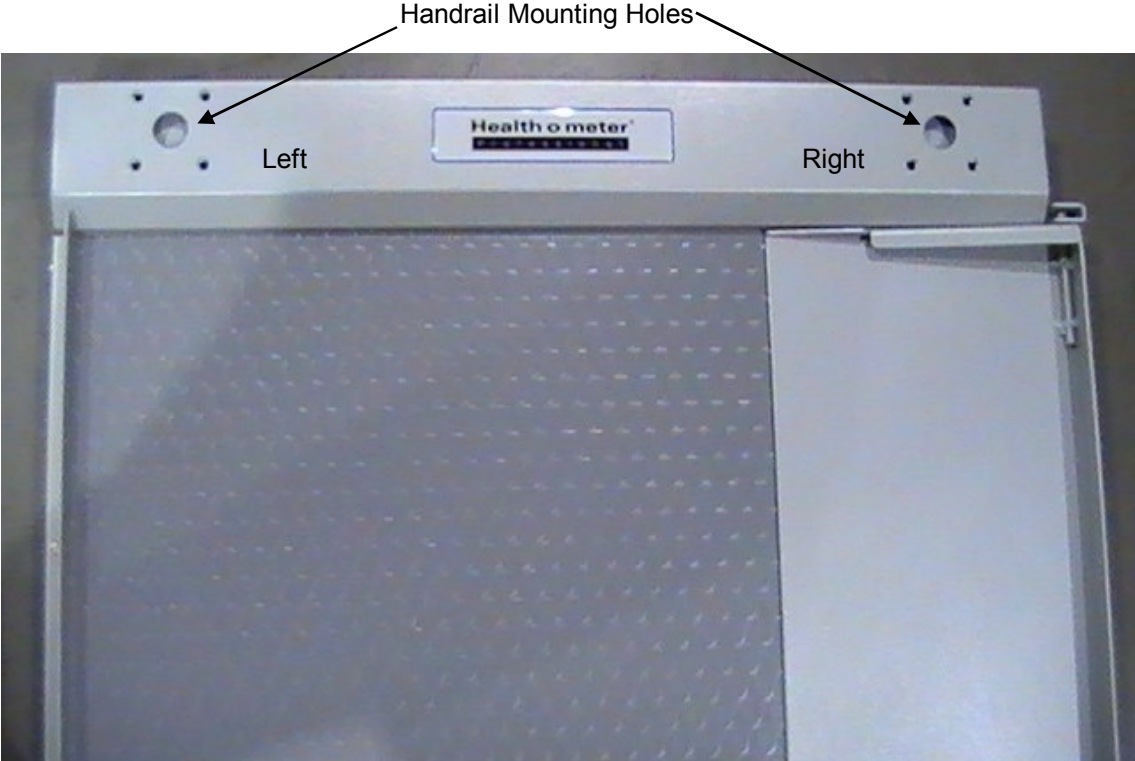

Figure 2
4. Position the handrail over the handrail mounting holes, located at the edge of the scale base assembly (see Figure 2).